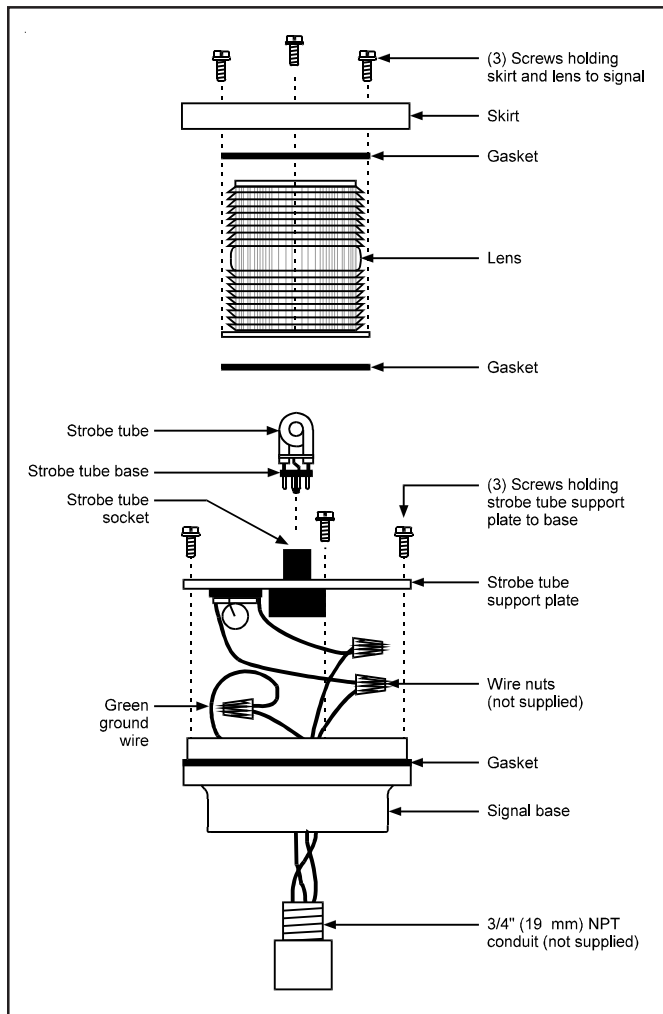
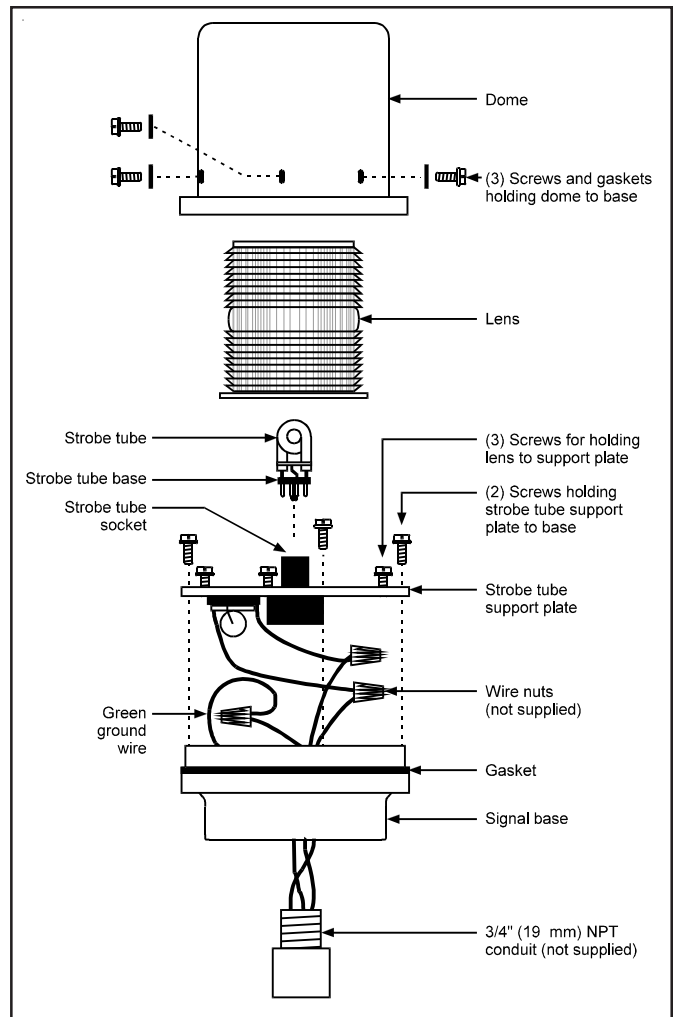

Figure 1. Conduit Mounting of 93 and 97 Series Signals
Figure 2. Conduit Mounting of 94 Series Signal
- a. **93 and 97 Series:** Refer to Figure 1. Except for the voltage ratings, the 93 and 97 series are identical. Remove the three screws from the skirt, grasp the lens and lift the lens/skirt straight up off of the base. Then, remove the three screws holding the strobe tube support plate to the signal base; grasp the socket (on the strobe tube support plate) and carefully lift the support plate off of the signal base. Proceed to step 2.
- b. **94 Series:** Refer to Figure 2. Remove the three screws and the rubber gaskets (washers) holding the protective dome to the signal base. Lift the dome and its rubber gasket straight up off of the signal base. Then loosen the three screws in the keyhole slots in the base of the lens, turn the lens clockwise and lift it off of the strobe tube support plate. Next, remove the three screws holding the strobe tube support plate to the signal base; grasp the socket (on the strobe tube support plate) and carefully lift the support plate off of the signal base. Proceed to step 2.
- a. Route the field wiring from the appropriate power source for the signal through 3/4" (19 mm) NPT conduit and through the conduit entrance hole in the signal base. Refer to Figure 1 for the 93 and 97 series signals and Figure 2 for the 94 series.
- a. **93 and 97 Series:** Refer to Figure 1. Remove the three screws from the skirt, grasp the lens and lift the skirt and the lens straight up off of the signal base. Proceed to step 2.
- b. **94 Series:** Refer to Figure 2. Remove the three screws and the rubber gaskets holding the protective dome to signal base. Lift the dome and rubber gasket off the signal base. Loosen the three screws in the keyhole slots in the base of the lens, turn the lens clockwise and lift it straight up off the strobe tube support plate. Proceed to step 2.